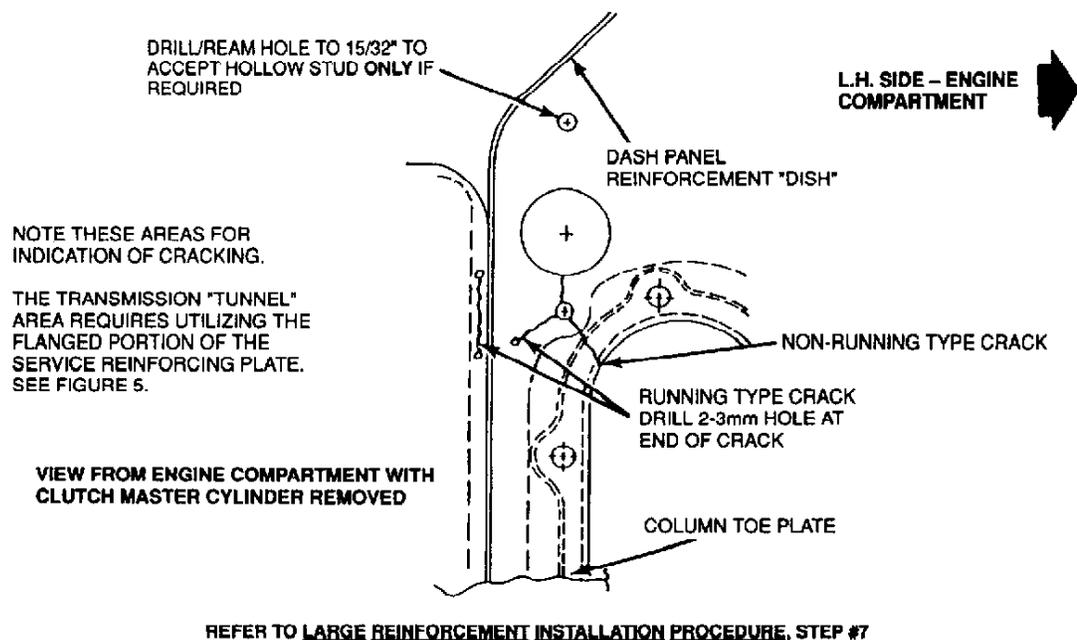

Fig. 8: Repairing Cracks
- c. If there are cracks that have not run out, stop them by drilling a 2-3mm hole at the end, Fig. 8 .